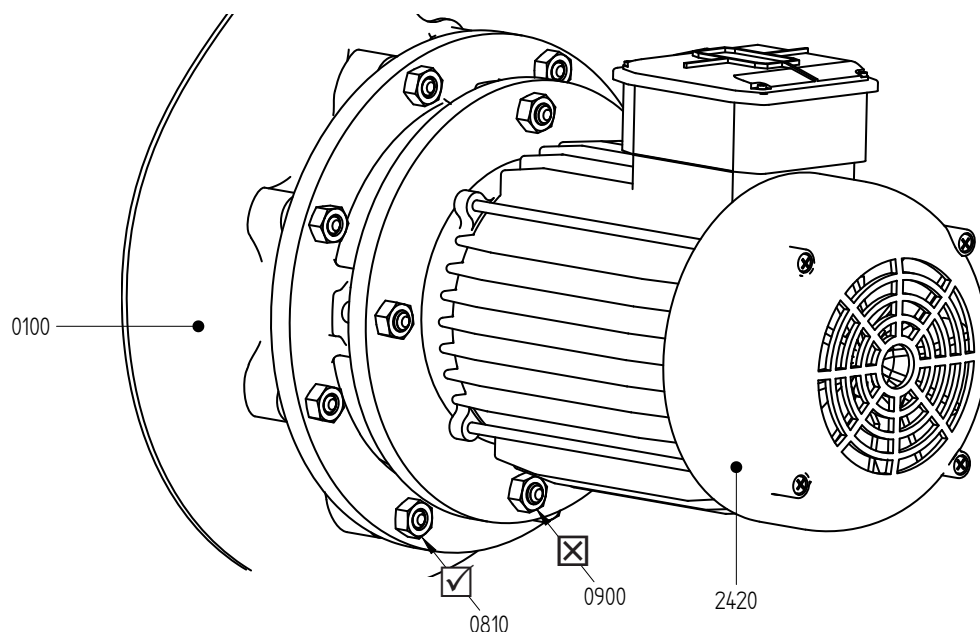

Figure 5: Location of fastening nuts.
- 1 Loosen the fastening nuts (0810) of the lantern piece, see figure 5.